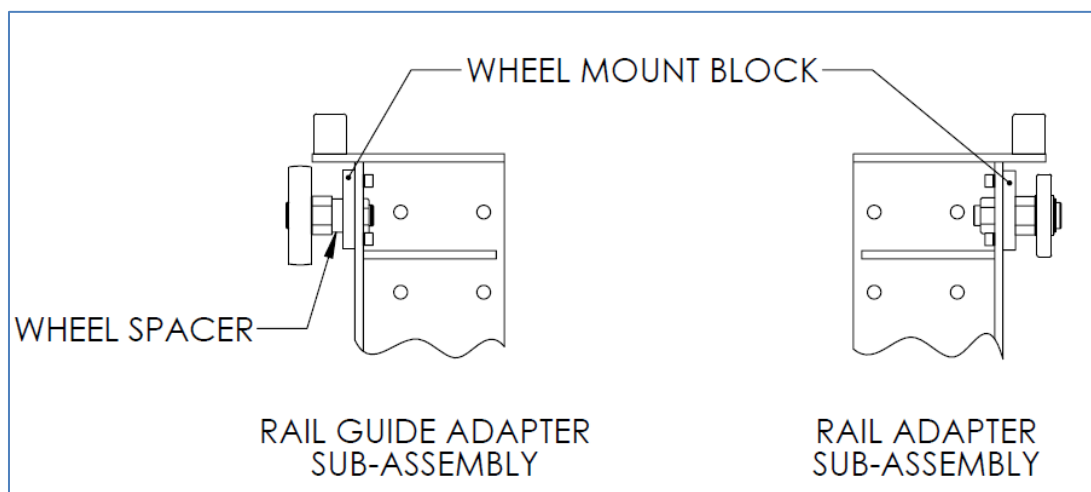

Figure 1
Please note the X/Y ceiling carriage assembly consists of two rail adapter subassemblies, two bridge struts and two transverse rails. It is important to note the two adapters are not identical; the "guide" adapter can be identified by the spacer that positions the guide wheels out further. See Figure 1.
2. If the adapters cannot be rolled into the longitudinal rails, you must loosen or remove the wheel mount blocks from the rail adapter sub-assemblies by removing their mounting hardware. See Figure 1.